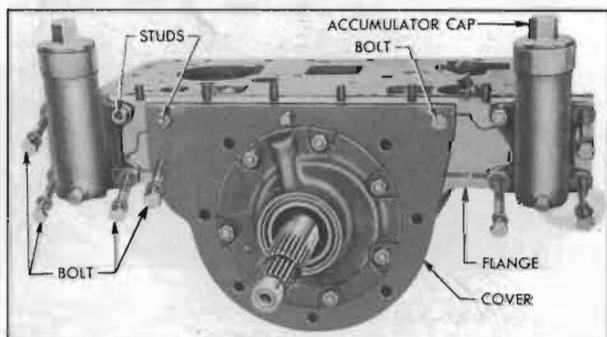

Figure 4-81—Accumulator Body and Reaction Shaft Flange Attaching Screws
2. Remove the three bolts which attach each accumulator body but do not remove the stud nut. Remove the bolts extending through front oil pump cover but do not remove stud nut. See figure 4-81.